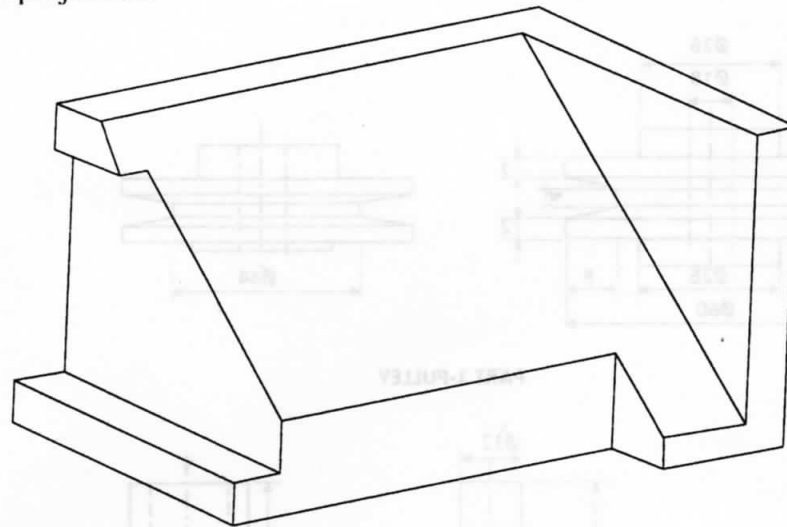

Figure 5
- 10 **Figure 5** shows an isometric block. Sketch three views of the block in first angle orthographic projection.